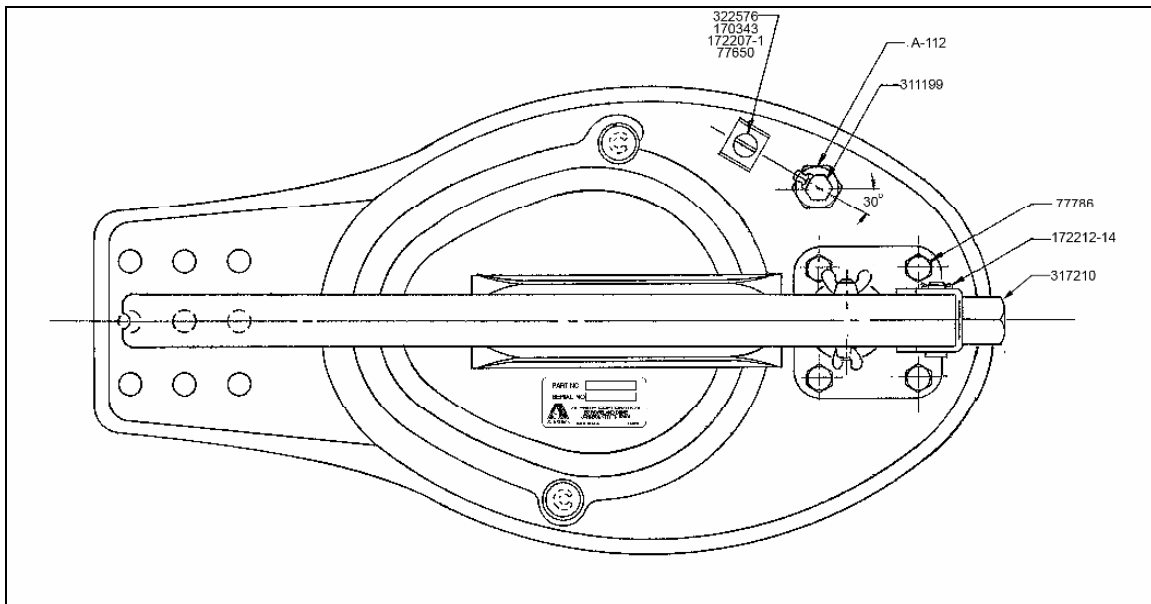

Figure 3: Model 7149-4 Bucket Pump
MODEL 7149-A4 (Figures 3 and 4):
MODEL 7149-D4 (Figures 3 and 6):
1. Unthread the 1/8" NPT hydraulic fitting 311199 from bushing A-112 (**Figure 3**). Thread angle body 43706 into bushing and pin type fitting A-336 into angle body.
MODEL 7149-F4 (Figures 3 and 8):